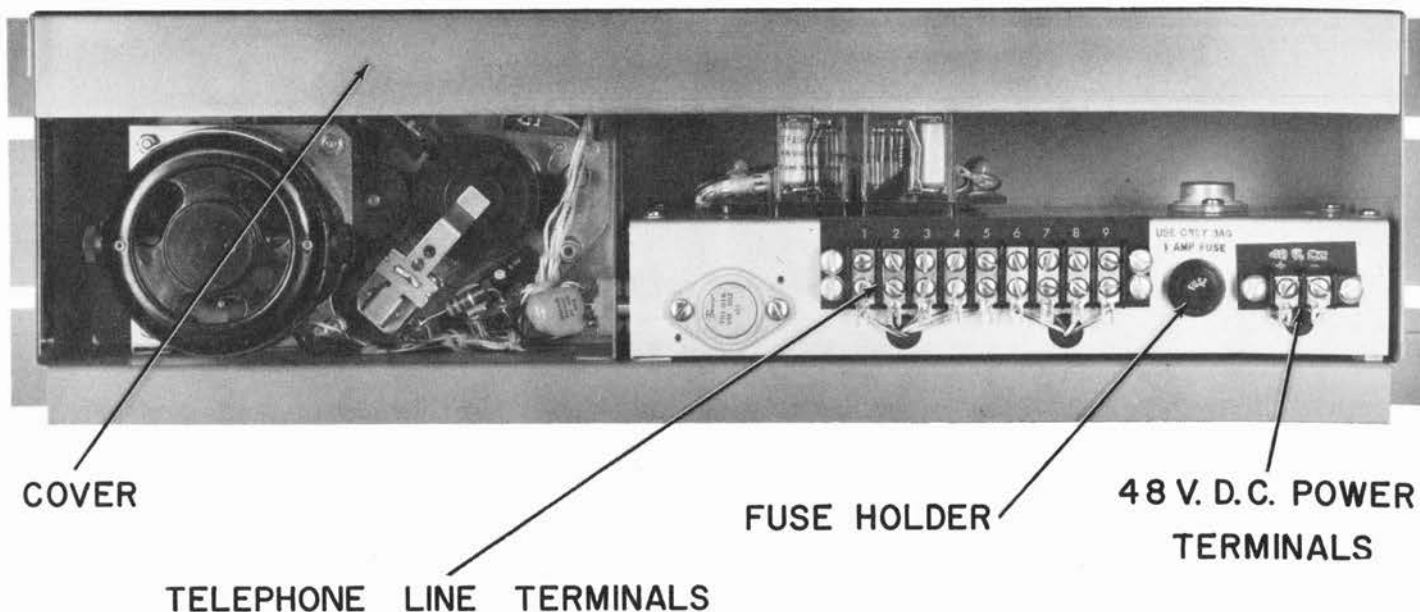

FIGURE 3-1 MODEL 210DC REAR VIEW
and 2 (fig. 3-1) whenever terminals 5 and 7 are shorted momentarily.
Connect a 44 to 52 volt D.C. battery or power supply to the POWER TERMINALS (fig. 3-1). **Make sure** that the correct polarity is observed, or the Model 210DC will be damaged.
5. Connect a telephone-type receiver, telephone instrument, or any speaker across telephone line terminals 1 and 2 (fig. 3-1).
- a. Remove 2 screws from top of machine and lift off cover (fig. 3-1).
- b. Remove 2 screws from top of machine and remove cover (fig. 3-1).
- a. Remove all connections from telephone line terminals (fig. 3-1).